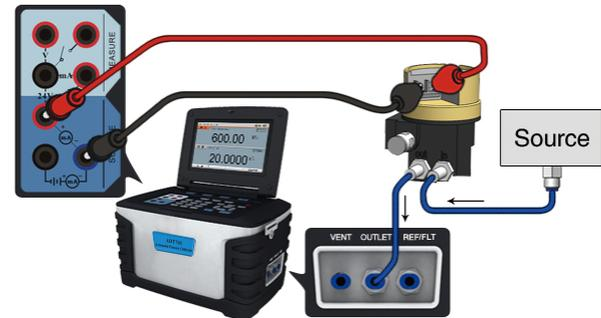

Figure 3-24 Calibrating an I/P converter
- ◆ Connect the calibrator to the I/P converter as shown in Figure 3-24.